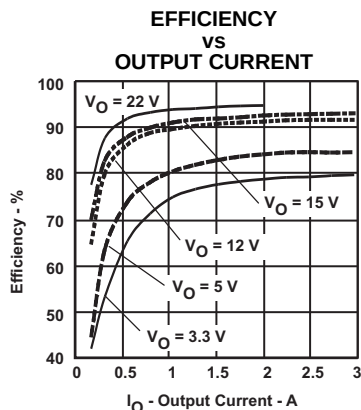
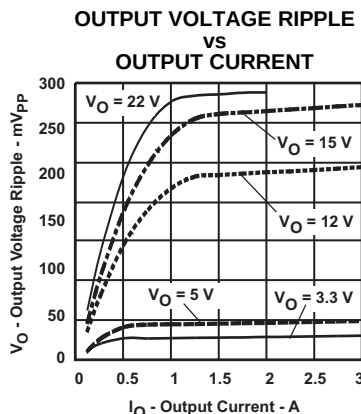
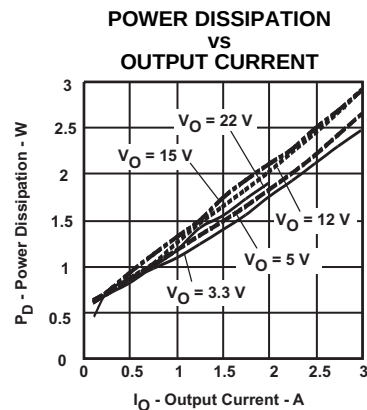

**Figure 19.**
**Figure 20.**
**Figure 21.**
- (1) The electrical characteristic data has been developed from actual products tested at 25° C. This data is considered typical for the converter. Applies to Figure 19, Figure 20, and Figure 21.